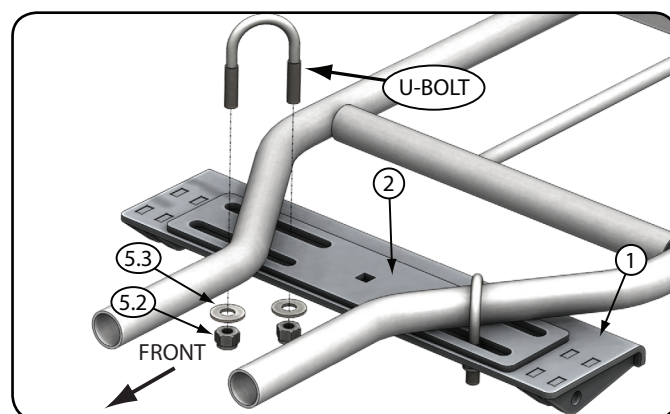

Figure 18 - Hybrid Mount Round Tube Install
3. **Optional:** Place the upper mount plate on top of the lower mount plate as shown in Figure 18. This is not required but adds strength to the mount for less flex when plowing.